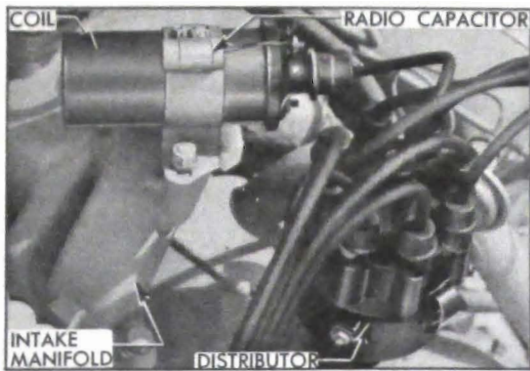

Figure 10-41—Coil and Distributor
(4) *Ignition Distributor.* The ignition distributor is mounted on top of the engine crankcase at the rear end. See figure 10-41. It is driven *clockwise* directly from the camshaft through steel gears which are automatically lubricated by the engine oiling system. The gear thrust is upward against a special bronze thrust washer.
(6) *Radio Suppressor and Capacitor.* A 10,000 ohm resistor is built into the distributor rotor so that it is unnecessary to install a suppressor on the high tension cable when a radio is installed. A capacitor is mounted on the side of ignition coil and connected to the positive (battery) terminal of coil when a radio is installed. See figure 10-41.